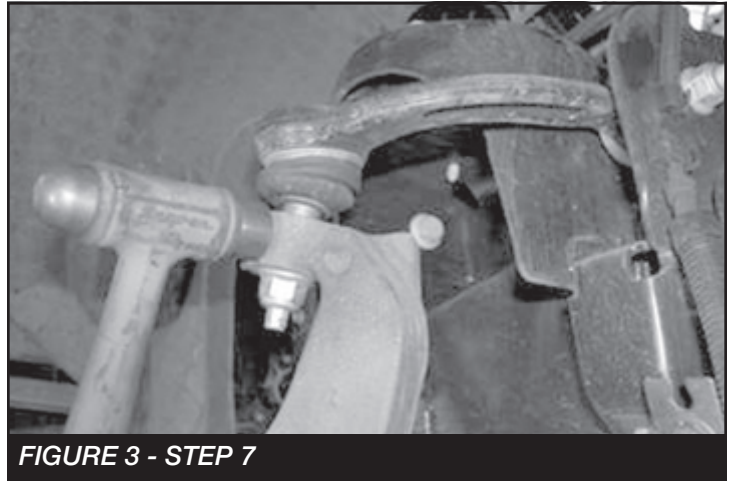

FIGURE 3 - STEP 7
7. Remove the upper and lower ball joint nuts. Disconnect the upper and lower ball joints from the steering knuckle by striking the knuckle with a large hammer next to each ball joint on the knuckle to dislodge the ball joints. Use care not to hit the ball joints when removing. Retain hardware and remove the knuckle with the dust shield and the hub. Use extra care not to over extend the C.V. axle shaft when removing the knuckle. **SEE FIGURE 3**